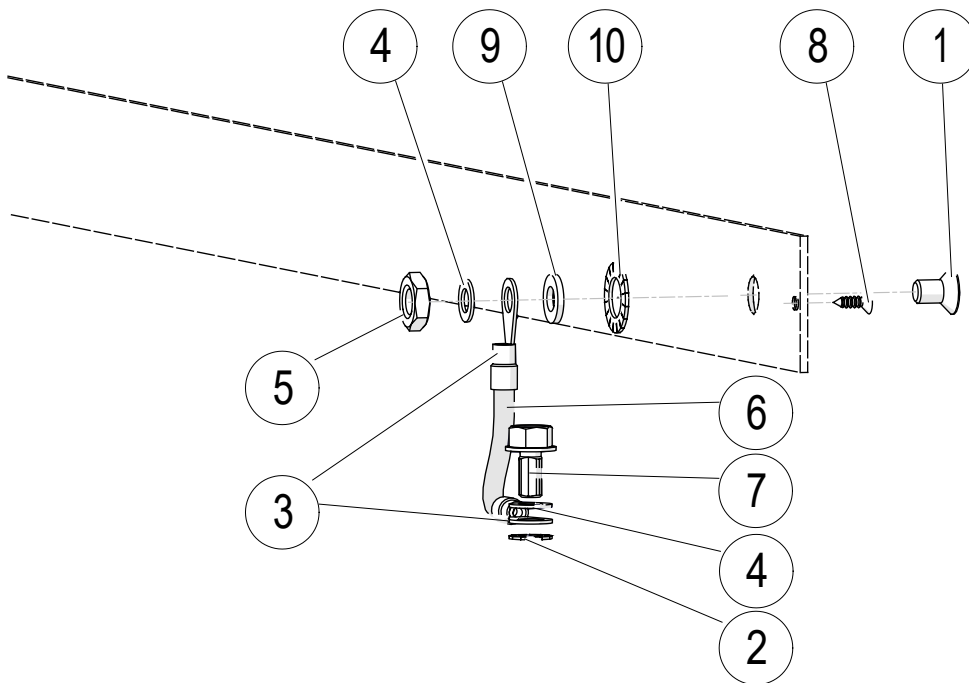

Fig. 1: Cable set PE (08-L020-0255)
- **The EJT PT Screws K30X8 WN1423 (see item 8 in Fig. 1) are included in the scope of supply of the cable set PE (see chapter 2).**
- Assemble the cable set PE with the countersunk screw DIN 7991 (item 1), the washer DIN125 A6,4 GA (item 9), serrated washer (item 10) and the locking edge washer (item 4) in the correct order on the positioning band profile (see Fig. 1). Tightening torque for countersunk screw DIN 7991: 8.8 Nm